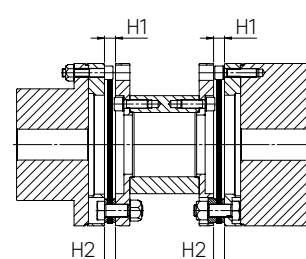

Figure 7
During assembly of each screws (5) and washers (6) or/and each screw and nuts (7) (following case) on each side, slip one « axial limiter short » between the DP flange (1.1) and the sandwich flange (1.3) of the pack sub-assembly (1) and one « axial limiter long » in each hole of the DP flange (1.1) (fig. 7). Tighten the screws (5) or (7) uniformly (tightening torque T5). See tabulation 1 for correct tightening torque T5 Nm and Allen key size (s mm).